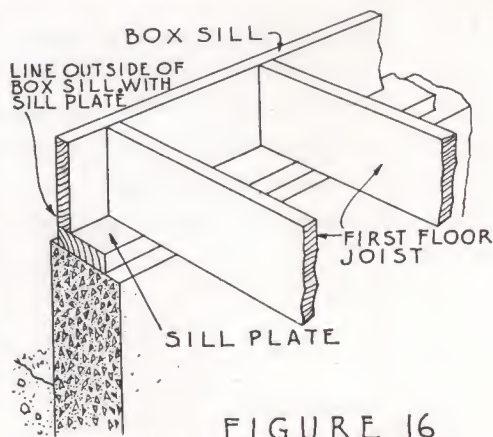
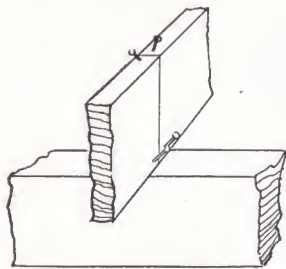

FIGURE 16
FIGURE 18
- (a) The box sill is a joist which is put on the two sides of the building and across the outside ends of the joists (see Figure 16). Pick out the proper pieces from the pile of first floor joists, with numbers on them to agree with the ones shown as box sills on the FIRST FLOOR FRAMING PLAN. Lay box sills on edge and in the proper location. Be sure they line on the outside with the outside of the sill plate (see Figures 16 and 22). Toe-nail (see Figure 18) the box sill into sill plate with 16-penny nails.
- (c) The WALL SECTION and FRAMING PLAN show whether these joists are 2"x8" or 2"x10". Lay the joist with one end resting on top of the sill plate and the other end resting on top of the girder. The ends of the joists fit tight against the box sill (see Figure 16). The outside of the first joist forming the box sill on the end of the building must be flush with the outside of the sill plate, in the same way as the outside of the box sill across the ends of the joists. The measurements for the exact location of each joist are given on the FIRST FLOOR FRAMING PLAN. These measurements are given from the outside face of the end joist to the left side face of all other joists (as shown on the plans)—not from center to center of joists. This same method of spacing is used throughout the plans for all joists, rafters, studs, and other framing members. You will find this method of showing the spacing easy to follow, as you will not have to figure back from center to the side of each piece to work out the spacing. Simply follow the measurements as given in spacing the joists and framing new members, and rapid progress is bound to result.